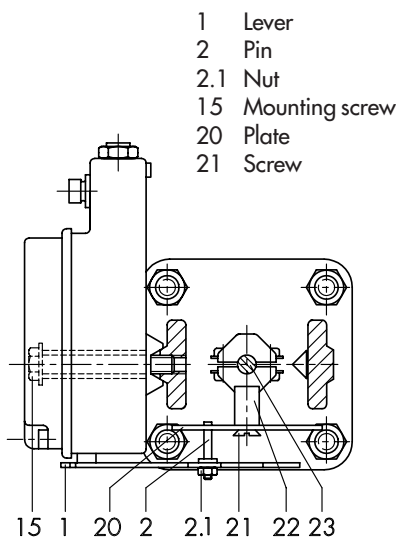

Fig. 4 · Attachment for valves with NAMUR-rib yokes (e.g., SAMSON Series 240 Valves)
2.1 Valves with NAMUR-rib yokes (Fig. 4)